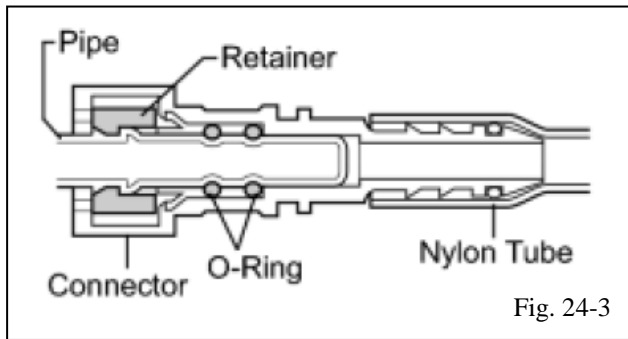

Fig. 24-3
(2) Pinch and pull the main tube connector to disconnect it from the pipe (Fig. 24-3).